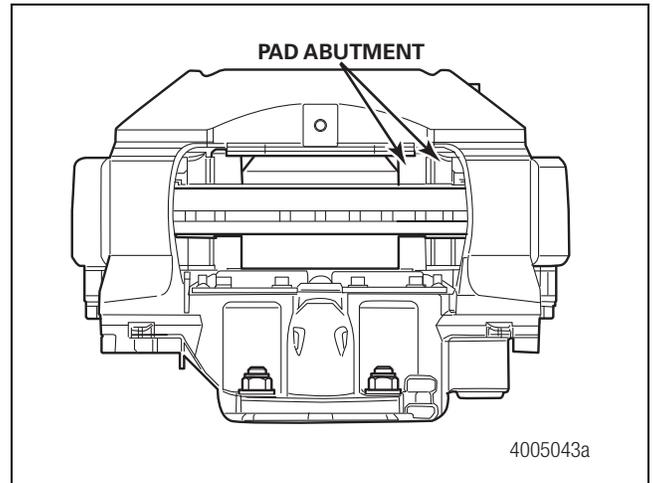
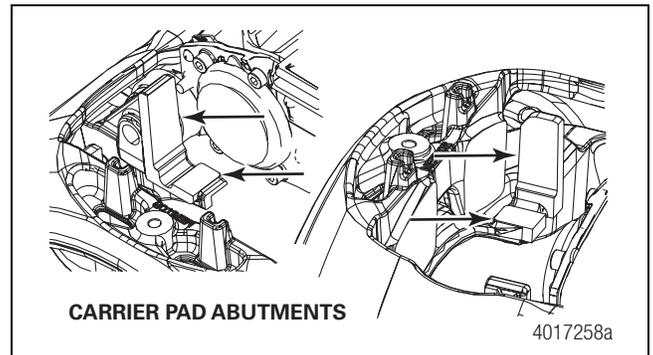

Figure 5.13
Figure 5.14
7. Inspect the carrier for signs of damage or wear. Pay particular attention to the pad abutments. Check for grooves on the pad abutments in excess of 0.02 inch (0.5 mm). Look for any carrier wear or damage that would cause the pad backing plate to catch and/or become cocked. Figure 5.13 and Figure 5.14.